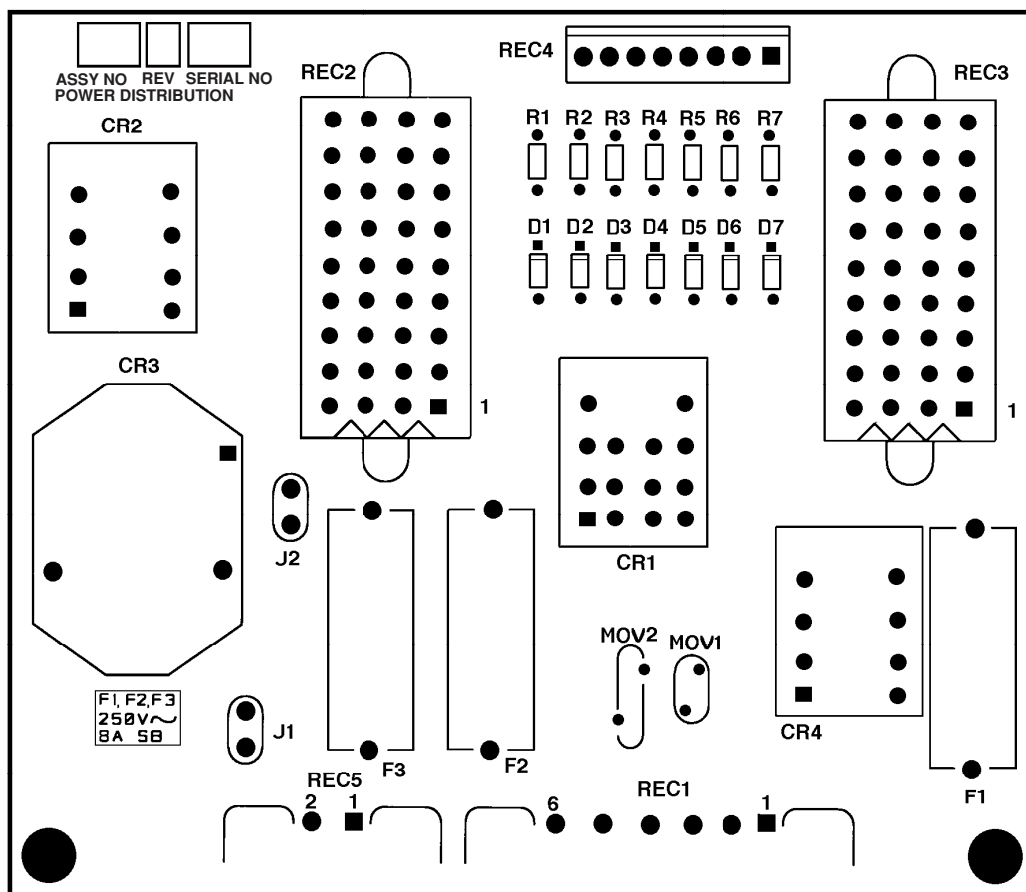

Figure 5-2 Power Distribution Board 1XPCB2
6. Measure voltage at Power Distribution Board 1XPCB2. Refer to Figure 5-2 for detail of 1XPCB2. Also refer to wiring diagram 013-4-272 supplied with manual. Locate fuses F1, F2, and F3 on board. Measurements between each fuse and chassis ground should be as follows:
1. The green POWER ON - pushbutton switch PB1 is pressed, but the fans are not operating and the green POWER ON indicator does not light.	<div>1.1. The green POWER ON (1) PB1 push button is defective. Check that switch is operating correctly, and that good contact is being made. The POWER ON switch is normally open.</div> <div>1.2. The red POWER OFF (0) PB2 push button is defective. Check that switch is operating correctly, and that good contact is being made. The POWER OFF switch is normally closed.</div> <div>1.3. Associated wiring not making good contact. Check wiring and repair or replace, if necessary.</div>
2. The green POWER ON push-button switch PB1 is pressed, the POWER ON indicator lights, but the fans are not running.	<div>2.1. CR2 on the Power Distribution board is defective. Check that CR2 switches when POWER ON push button is pressed. See Figure 5-2 for location of CR2. If CR2 is defective, unsolder CR2 and replace.</div> <div>2.2. PL25 and REC20 located near the fans (see Figure 6-2 for location of fans) are not seated together securely and/or not getting 120VAC from Power Distribution Board.<ul style="list-style-type: none"><li>• Check pins, connectors and associated wiring for good continuity.</li><li>• Check for 120VAC at PL25.</li></ul></div>
<p>2.3. PL2 and REC2 on Power Distribution board (see Figure 5-2 for location of REC2) are not seated well. Check pins, connectors and associated wiring for good continuity. Repair or replace, if necessary.</p>
<p>3. The green POWER ON push-button switch PB1 is pressed, the fans are operating, but the green POWER ON indicator does not light.</p>	<p>3.1. Push button PB1 was not held down long enough. Press and hold PB1 for a minimum of five seconds.</p> <p>3.2. Relay CR1 on the Power Distribution board is defective. Check that CR1 switches when POWER ON push button is pressed. See Figure 5-2 for location of CR1. If CR1 is defective, unsolder CR1 and replace.</p> <p>3.3. One or more of the green STATUS LEDs does not illuminate (except yellow OVERTEMP LED which illuminates indicating a fault condition). To troubleshoot STATUS fault conditions, see Status LED Troubleshooting later in this section.</p>